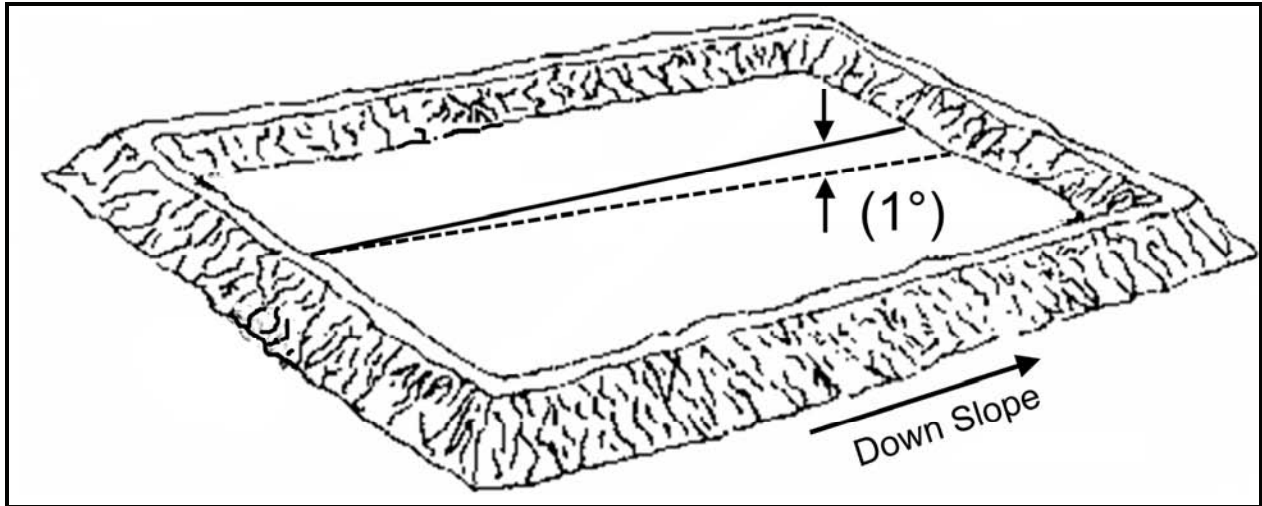

Figure 2. Slope Towards One End by 1 Degree.
Damage to tank may occur if chosen site is not free of sharp objects (rocks, sticks, glass, etc.), and center of leveled area should not exceed 9.0-inches below ground level. Retain a slight incline for draining surface water (Figure 2). Safety berms must have capacities of not less than one and one half times that of the tank capacities (Figure 3). Failure to construct a secure safety berm may result in catastrophic damage.
2. Erect a 5.5-foot high berm around the outside of the sloped area. Protect berm walls against erosion with sod or stone (Figure 2).